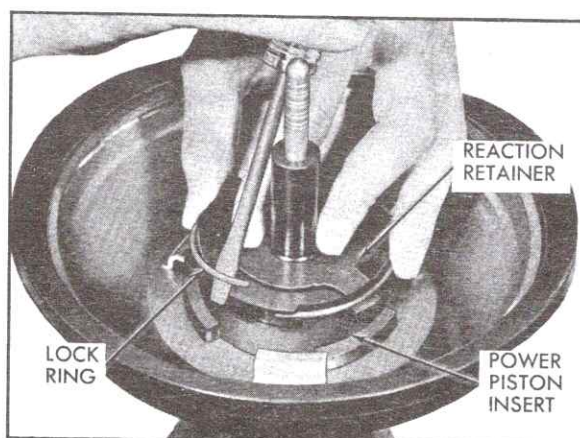

Fig. 5-18 Installing Power Piston Lock Ring
20. Place lock ring over reaction retainer. Press down and hold reaction retainer while installing lock ring by starting one end of ring under large divided locking ear on power piston insert. Complete installation by working ring over and under appropriate locking ears, Fig. 5-18.